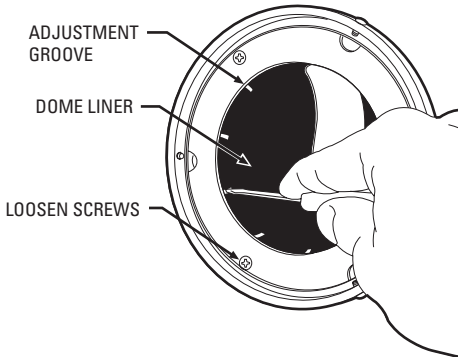

Figure 12. Dome Liner Adjustment
1. Adjust the dome liner if installed (refer to Figure 12):